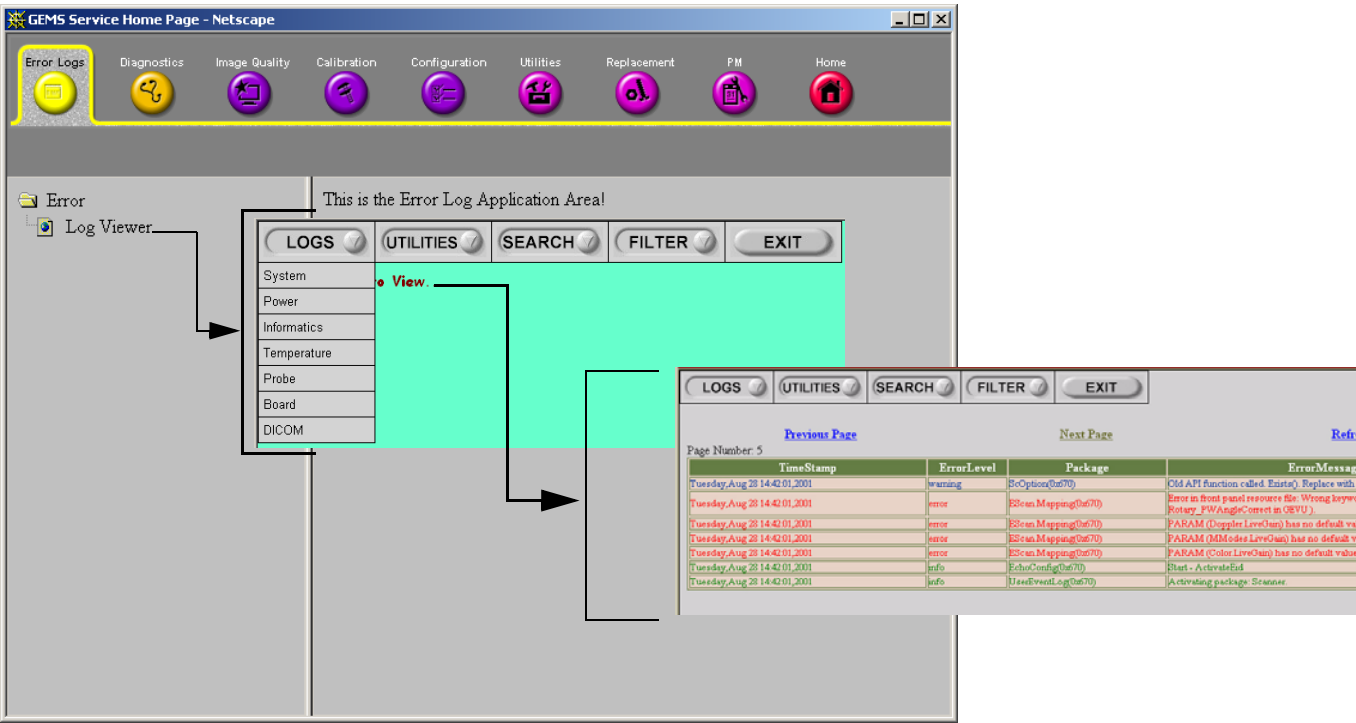

Figure 5-30      Log Viewer / Logs / Log Entries
*NOTE: Figure 5-30 provides a graphical example of the log entries for the **System Logs**.*